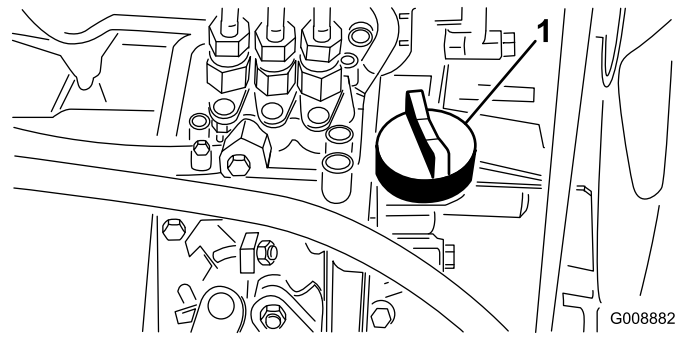

Figure 38
4. If the oil level is low, remove the oil fill cap (Figure 38) and gradually add small quantities of oil, checking the level frequently, until the level reaches the Full mark on the dipstick.